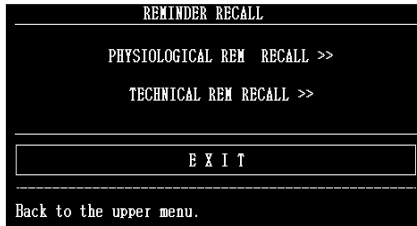

Figure 3.18 Reminder Recall
1) Revolving the knob key to enter **Reminder Recall**, the diagram is showed as **Figure 3.18**